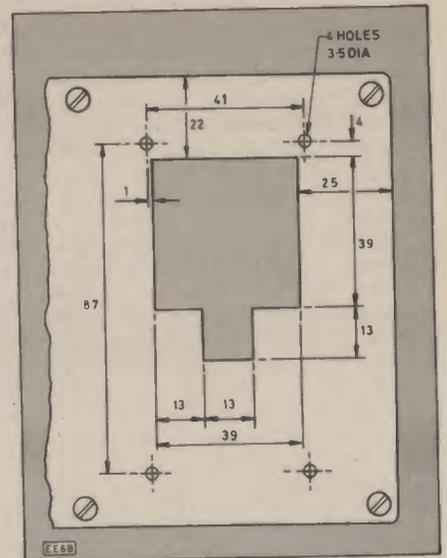

Fig. 7. Top panel drilling details.
**BOX PREPARATION:** Drilling details for the aluminum diecast box used in the prototype are given in Figure 7. Mark the box carefully and check component sizes before you begin. Patience and care taken at this stage will help to ensure a good final appearance. Large areas of metal are best removed using a small hacksaw fitted with a tension file in place of the normal blade. With drilling completed, the box can be cleaned and spray painted if desired.